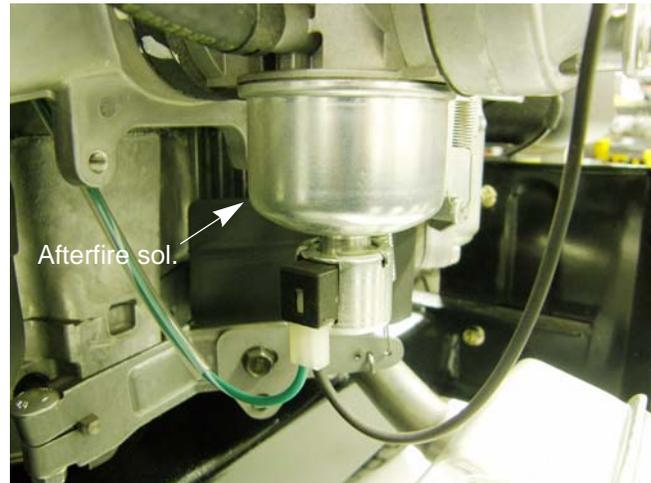

Figure 7.23
2. There is an **afterfire solenoid** on the carburetor. When it is energized, fuel flows normally through the carburetor. When it is not energized, it closes off the fuel flow through the main jet of the carburetor. The purpose of the solenoid is to prevent unburned fuel from being pumped through the engine after the ignition is turned off. This unburned fuel accumulates in the muffler and may ignite with an alarming noise. See Figure 7.23.